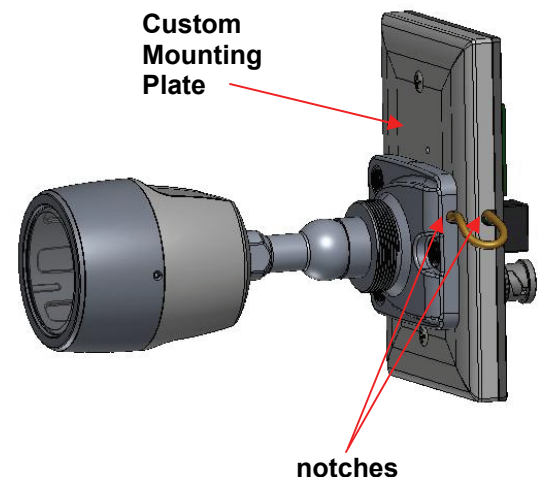

Figure 2
- Screw the IR Camera mount assembly to the custom mounting plate with the three black screws provided, being careful to run the cable from the camera through the notch in the mounting arm (see **Figure 2**).